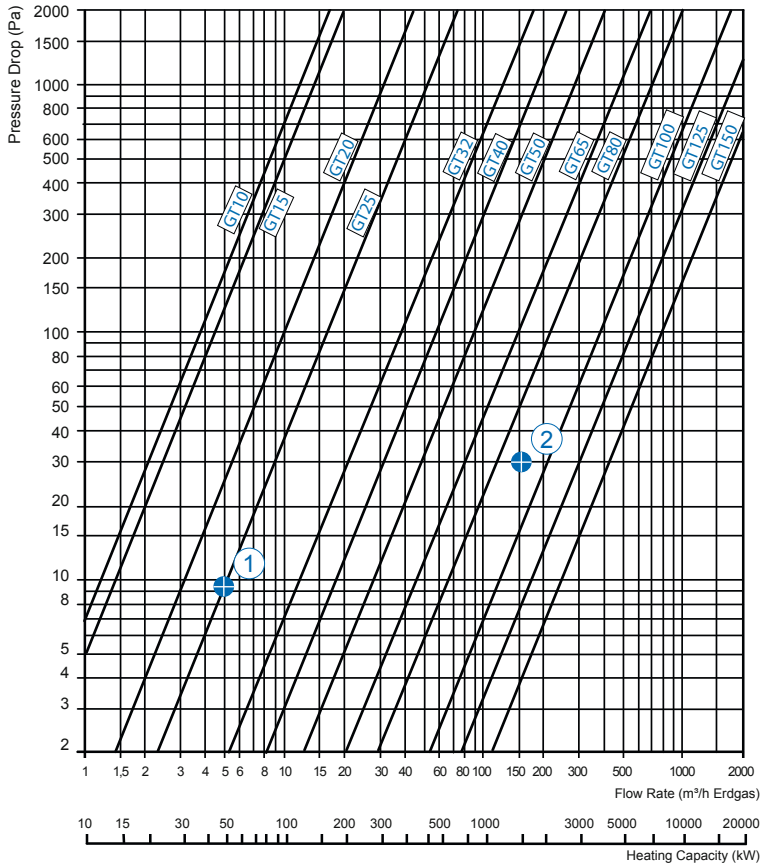

Figure 5: Flow rate chart SENTRY GT
**EXAMPLES (Figure 5 and 6)**
- ① For a 50kW boiler with a flow rate of ca. 5 m3/h natural gas, the pressure drop for a GT25 would be 9,5 Pa.
- ② The pressure drop of a GT for a 1500 kW boiler may not exceed 30 Pa. Choose the next characteristic line below plot point ② (GT100).
- ③ The pressure drop of a GT20KD40 with a flow rate of 4 m3/h natural gas would be 20 Pa.